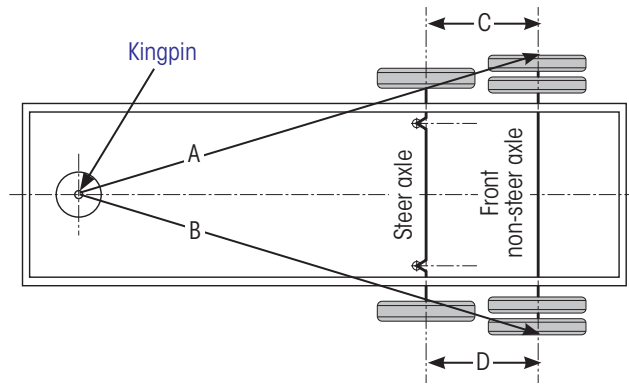

Figure 28: Self-steer axle alignment measurements
**IMPORTANT:** A self-steer axle must not be used as the primary front most axle for axle-axle alignment in these procedures (see Figure 28).
- If not already done, **check and align** the front (non-steer) axle thrust angle (Figure 28, A=B) according to KINGPIN TO FRONT AXLE ALIGNMENT CHECK on page 13.
- Follow AXLE-AXLE ALIGNMENT CHECK on page 16 (Figure 28, C=D) and ensure it is within specifications listed in Table 5 on page 15.